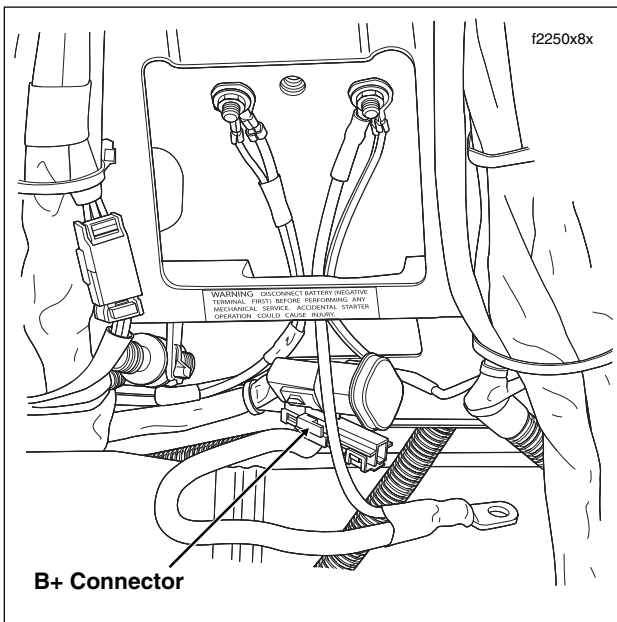

Figure B-24. Remove Seat
5. Cut anchored cable strap to release accessory connector and B+ connector from left side of frame crossmember (in front of battery box). See Figure B-24.